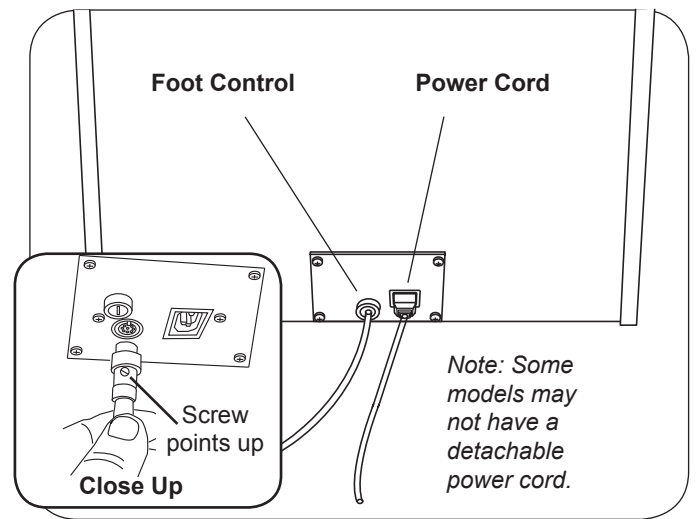

Figure 23 Power Cord and Foot Control.
2. Insert the female plug end of the power cord into the receptacle on the table (Figure 23). Make sure the plug is fully seated.
1. Insert the male plug of the foot control cord into the receptacle on the table (Figure 23). Make sure the pins are properly orientated and the plug is fully seated.